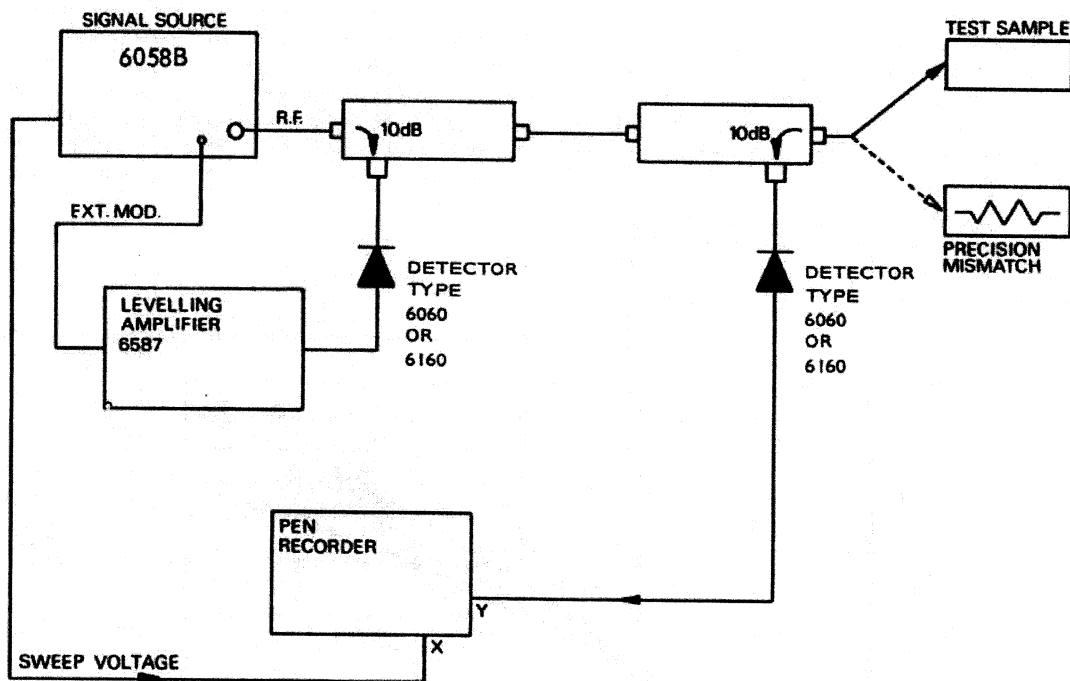

Fig. A1 V.S.W.R. Measurements
The Signal Source 6058A, can be used in conjunction with an X-Y recorder to provide a permanent record of broadband measurements. When used in this mode the source is operated in a similar way to the Microwave Sweeper Type 6600A with the rear panel BNC socket providing the sweep voltage. Reflectometer and insertion loss measurements can be made in the usual way see Figs.A1 and B1. The output voltage is zero at 8 GHz and approximately 10V at
- A. Manual Sweep Frequency Measurements of V.S.W.R. Using the equipment as shown in Fig.A1 a permanent record of test results can be obtained over the complete frequency range of the